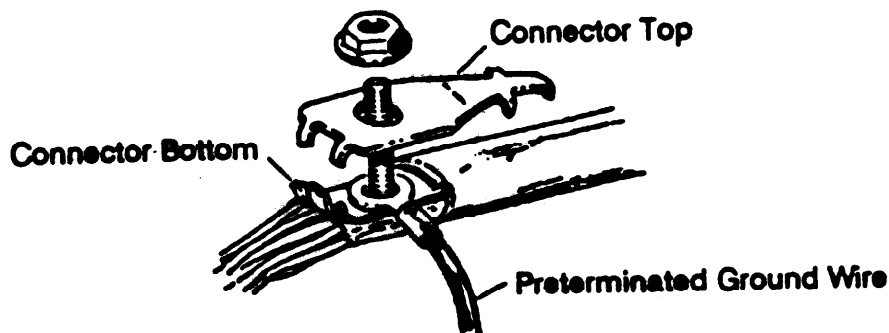

Figure 5.2 - Applying Ground Wire to Base
5.02 Preterminated ground wire. See Figure 5.2.